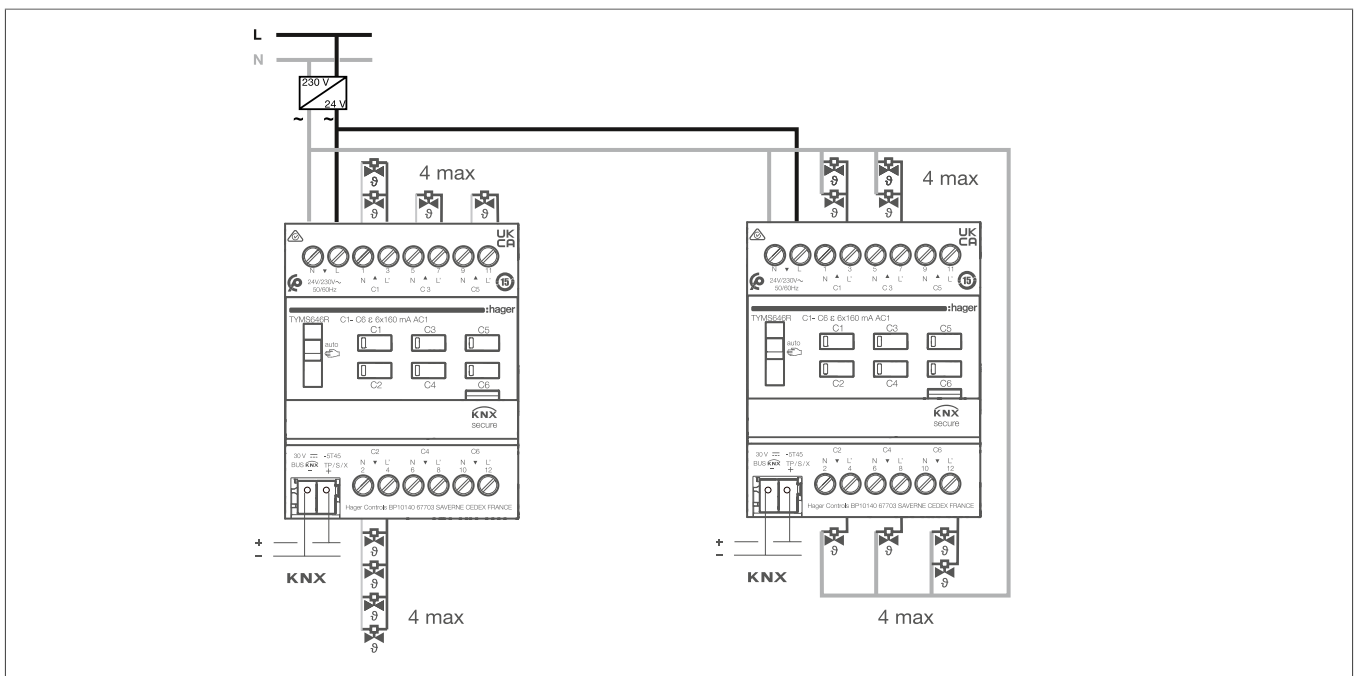

Fig. 5: Connection diagram for valve drives with 24 V~ power supply
- 3 Connect the 24 V DC valve drives to the device according to the connection diagram ((Bild 5: Connection diagram for valve drives with 24 V~ power supply)).